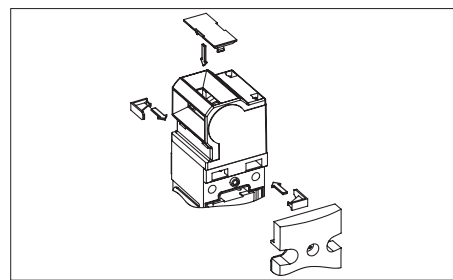

Fig. 2: Fitting locking pins, closing actuating slot
3. Optionally: Fit the supplied locking pins for protection against twisting (see Fig. 2).
4. Cover the unused actuating slot with the enclosed slot cover (see Fig. 2).